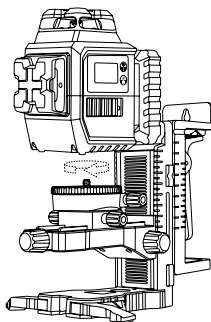

FIGURE 8
- Attach the laser level to the mount by rotating on the circular mounting point with the 1/4" thread (Fig.8).
- Deploy the front stabilising feet on the multi-purpose mount when working on flat surfaces such as floors and bench tops (Fig.8).